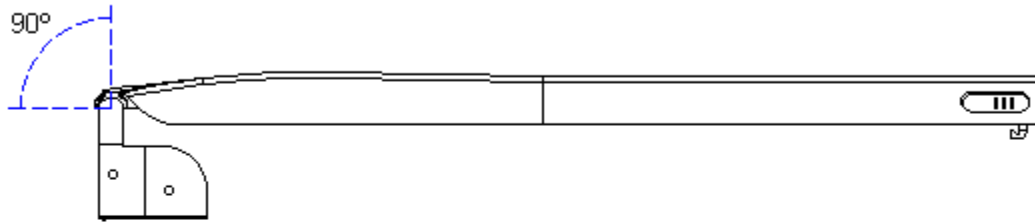

Figure 5-117. Positioning Display Clutches
26. Position the display clutches at a 90-degree angle (Figure 5-117).